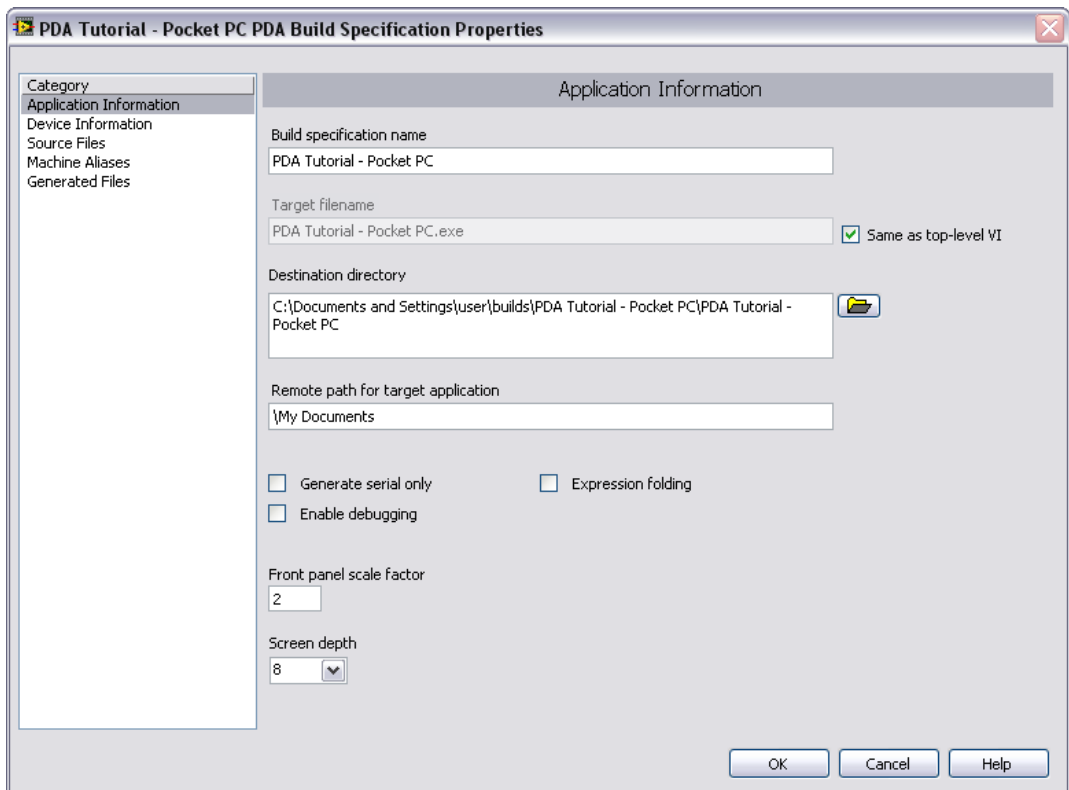

Figure 4. Defining the PDA Application Information
1. Define the settings for the PDA application as shown in Figure 4.